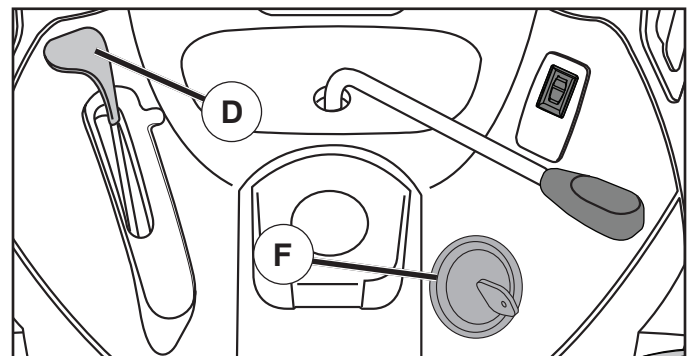

Fig. 6
### TO USE THROTTLE CONTROL (D) (See Fig. 6)